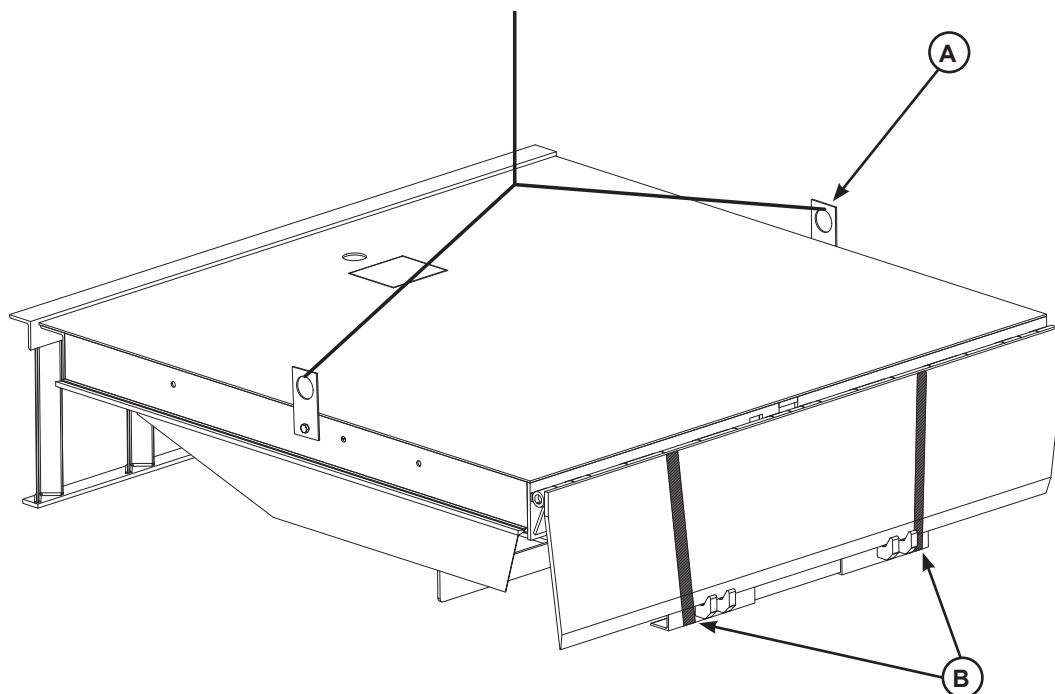

Figure 6
Systems, LLC dock levelers are shipped with lifting brackets (A) fastened to the platform side joists, and shipping bands (B) around the platform lip and leveler frame (see Figure 6)
3. Attach lifting chains to lifting brackets (A) and to a lifting device (i.e., hoist or fork truck) having the appropriate lifting capacity and reach.